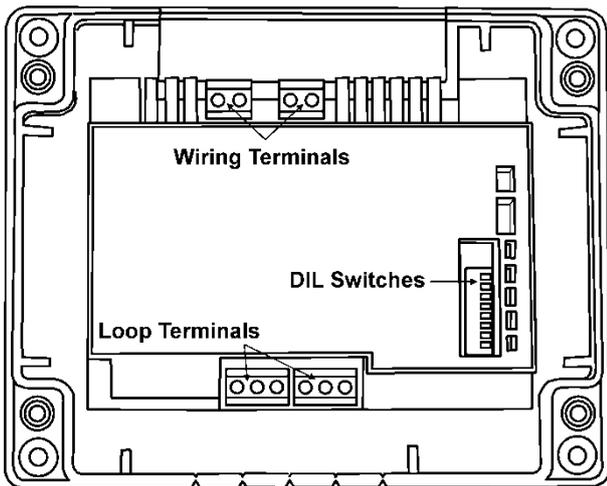
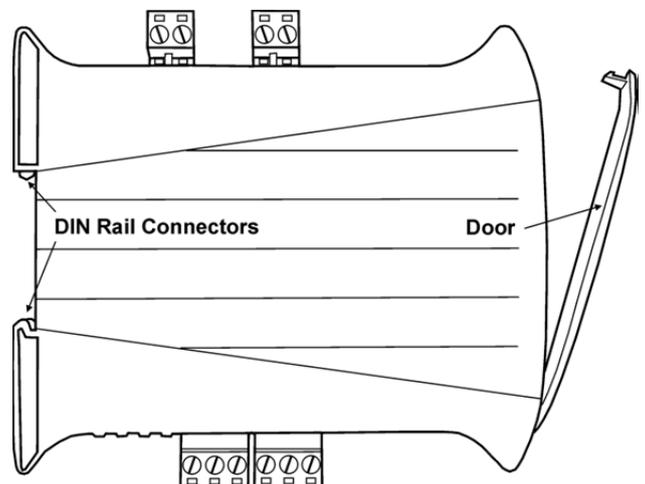

Fig 1
Fig 3
Standard "Smart-Fix" Modules (including (SCI) versions) are supplied as two individual components (see Fig 1 & 2). DIN versions are supplied as one unit (see Fig 3).
- The analogue address of the Module is set using the first 7 switches of the 8-bit DIL switch, which in the case of the Standard CHQ is located through the cut-out section on the top of the PCB cover. On the DIN version, this switch is located on the edge of the PCB behind the clear door (see Fig 3).